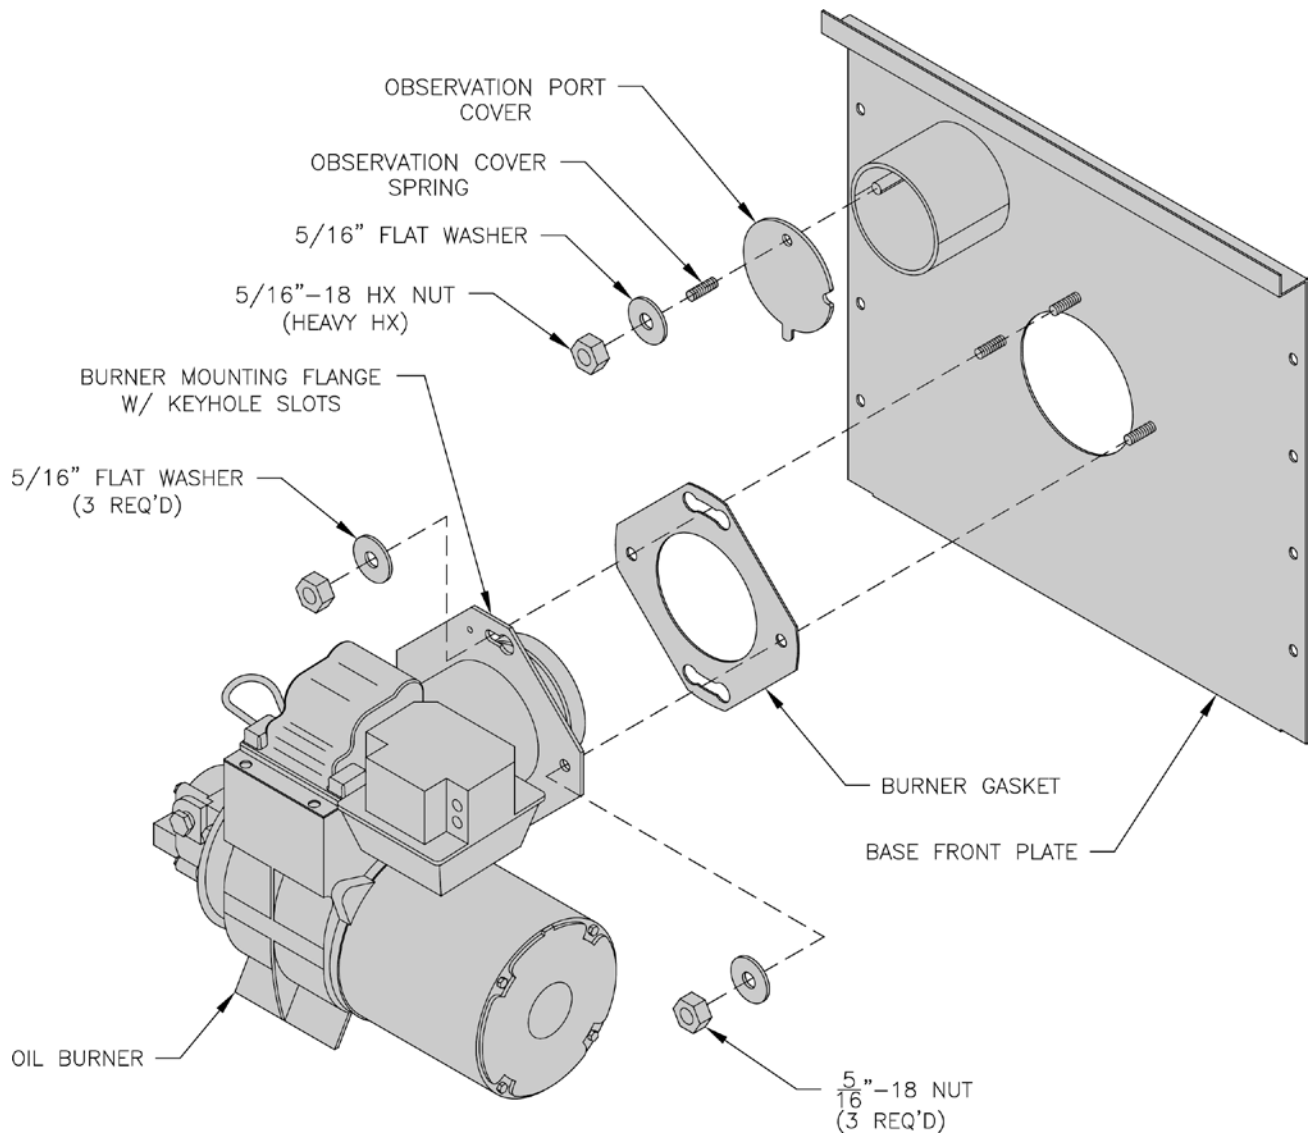

Figure 7: Burner Mounting
6. Re-install Observation Port Cover and related hardware in reverse order to removal. See Figure 7.
1. Insure burner gasket proper fit/positioning on burner air tube, relative to burner mounting flange, prior to burner mounting. See Figure 7.
2. Mount installer-supplied burner onto base front panel studs and secure with provided 5/16 flat washers and brass 5/16-18 hex nuts. Refer to Figure 7.